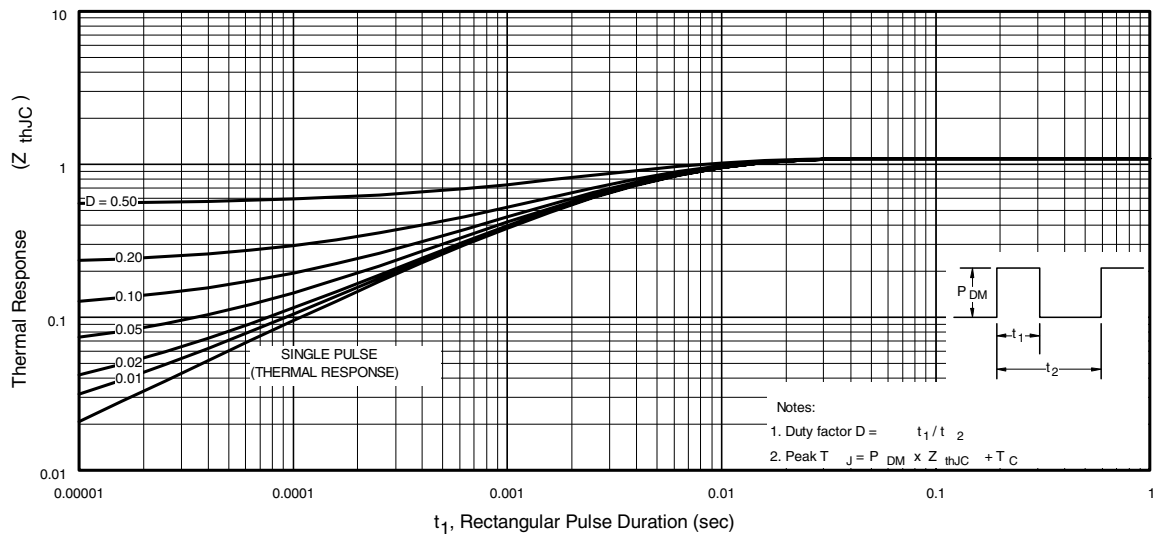
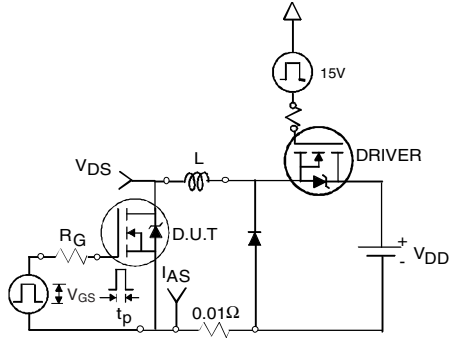

Fig 11. Maximum Effective Transient Thermal Impedance, Junction-to-Case
Fig 12a. Unclamped Inductive Test Circuit
3. Equation below based on circuit and waveforms shown in Figures 12a, 12b.
$Z_{thJC}(D, t_{av})$ = Transient thermal resistance, see figure 11)
- ① Repetitive rating; pulse width limited by max. junction temperature. (See fig. 11).
- ② Limited by T_{Jmax} , starting $T_J = 25^\circ\text{C}$, $L = 0.52\text{mH}$, $R_G = 25\Omega$, $I_{AS} = 30\text{A}$, $V_{GS} = 10\text{V}$. Part not recommended for use above this value.
- ③ $I_{SD} \leq 30\text{A}$, $di/dt \leq 170\text{A}/\mu\text{s}$, $V_{DD} \leq V_{(BR)DSS}$, $T_J \leq 175^\circ\text{C}$.
- ④ Pulse width $\leq 1.0\text{ms}$; duty cycle $\leq 2\%$.
- ⑤ C_{oss} eff. is a fixed capacitance that gives the same charging time as C_{oss} while V_{DS} is rising from 0 to 80% V_{DSS} .
- ⑥ Limited by T_{Jmax} , see Fig.12a, 12b, 15, 16 for typical repetitive avalanche performance.
- ⑦ This value determined from sample failure population. 100% tested to this value in production.
- ⑧ When mounted on 1" square PCB (FR-4 or G-10 Material). For recommended footprint and soldering techniques refer to application note #AN-994.